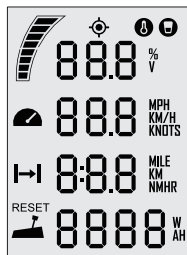

Figure 5-12
If the Remote Controller/Tiller Handle still displays like Figure 5-12 after check, it proves that an error has occurred to the outboard motor and the outboard motor needs repair.
**Step4:** After setting all the numbers, long press the “OK” button to return to the main page. If the main page displays normally, the pairing succeeds; but if the main page still displays all the characters as shown in Figure 5-12, the pairing fails.